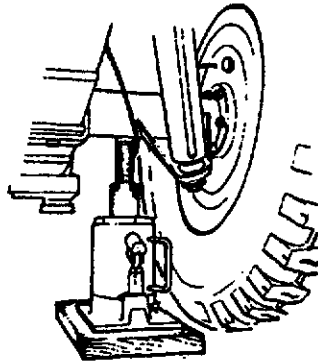

Figure 2-6 Jack Position - Rear Wheels
- (2) Rear wheel. Position the jack so that when raised, it will contact the axle tube between the spring and the shock absorber bracket (see Fig. 2-6)